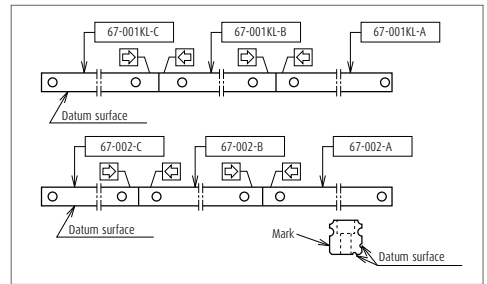

Fig. 25
- › The rails with butting specification are marked with alphabet (A, B, C ...) and an arrow on the opposite side of the mounting datum surface. Use the alphabets and arrows for assembly order and direction of the rail (Fig. 25).